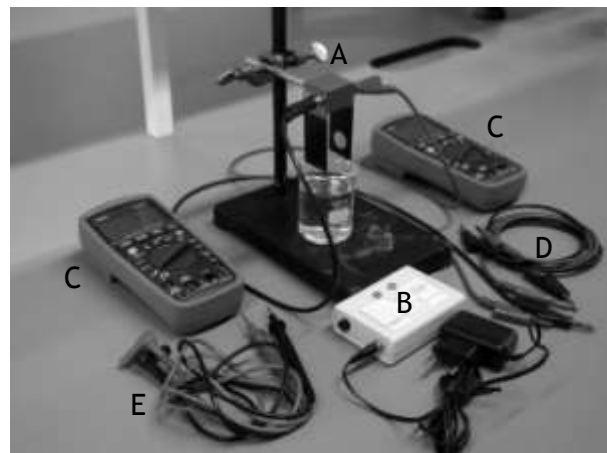
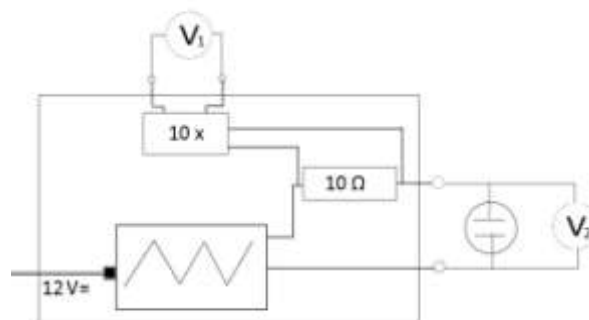

Figure 3 - Materials for the setup of the experiment
Figure 4 - Schematic of the power supply box. The symbol  is used for the electrodes.
- A set of two gold-plated electrodes (part A in Figure 3)
- AC power supply box (B) (without cable)
- Two digital multimeters (C)
- Four electricity wires (red, black, 2x blue) (D) and two wires of a multimeter (red, black) (E)
In this experiment the electrical conductance of the salt solutions will be determined with the materials depicted in Figure 3. A set of gold plated electrodes is submerged in a beaker containing the salt solution. The electrodes must be connected to a power supply, which delivers an alternating voltage with a high frequency (1 kHz) and a low voltage. This is needed to prevent electrolysis of the salt solution. From the measurement of voltage across and current through the electrodes the electrical conductance can be determined. In Figure 4 a schematic of the power supply is shown, with the AC voltage supply depicted as the box with the triangle shaped symbol. During the experiment we will connect the ports on the right side with the electrodes for the conductance measurements. In order to measure the current, the box contains a resistor $R_1 = 10 \Omega$ and an amplifier to amplify the voltage across the resistor 10 times. The output is measured between the two upper ports.
3. Build the electrical circuit using the schematic from Figure 4. Make sure the multimeters are in the mV  AC setting (using the blue button so that 'AC' appears in the display) for alternating current, and connected to the appropriate sockets.